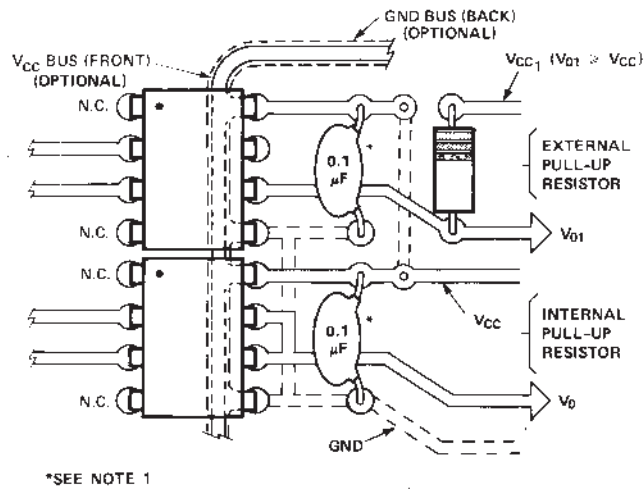

Figure 19. Recommended printed circuit board layout.
- By-passing the power supply line is required with a 0.1 μF ceramic disc capacitor adjacent to each optocoupler as illustrated in Figure 19. The power supply bus for the optocoupler(s) should be separate from the bus for any active loads, otherwise a larger value of bypass capacitor (up to 0.5 μF) may be needed to suppress regenerative feedback via the power supply.
A recommended layout for use with an internal 1000 Ω resistor or an external pull-up resistor and required V_{CC} bypass capacitor is given in Figure 19. V_{CC1} is used with an external pull-up resistor for output voltage levels (V_O) greater than or equal to 5 V. As illustrated in Figure 19, an optional V_{CC} and GND trace can be located between the input and the output leads of the HCPL-2300/HCPL-0300 to provide additional noise immunity at the compromise of insulation capability ($V_{I,O}$).